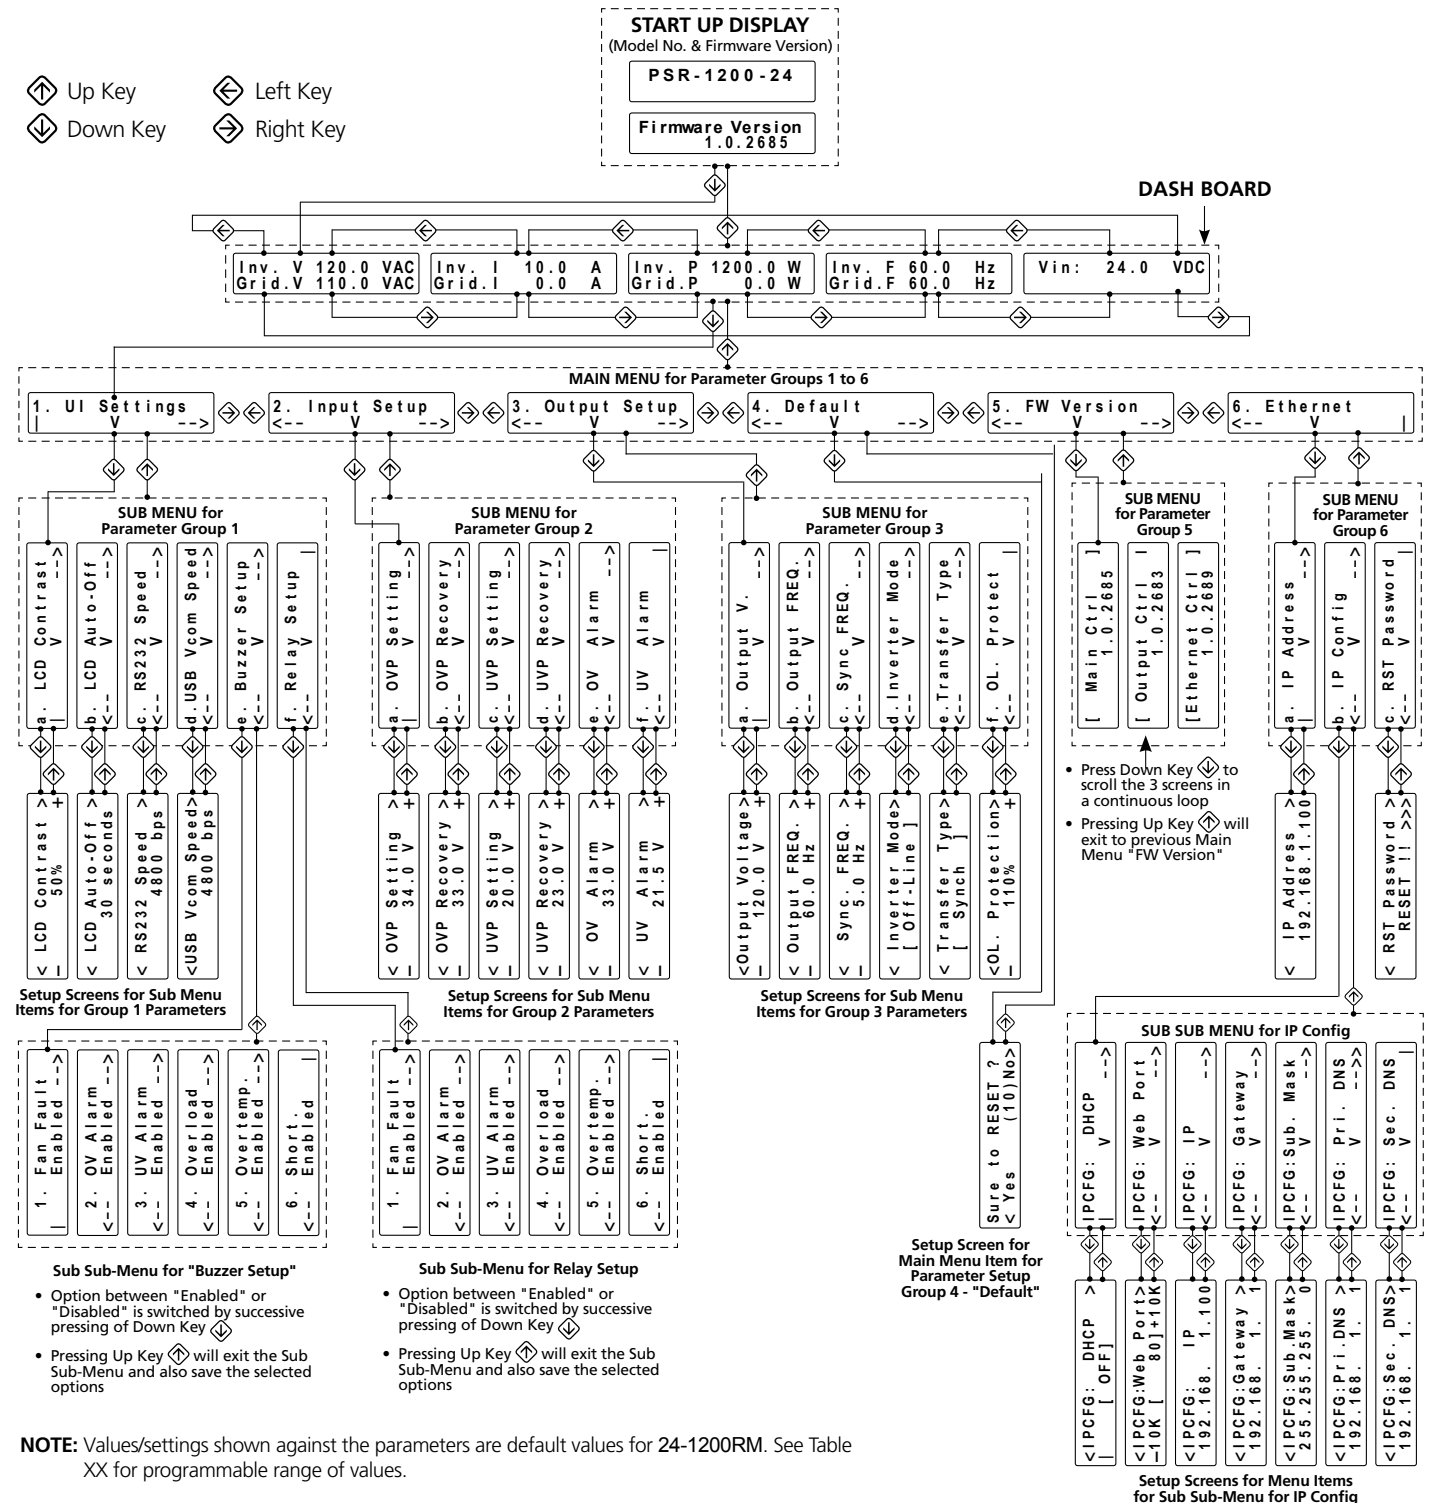

Fig 10.1 Menu Map for Programmable Operating Parameters
Refer to Startup Display and Dashboard portions of the Menu Map at Fig 10.1 (extract of these portions is given below at Fig 9.1 for ready reference. The "Startup Display" screens appear when the unit is switched ON (see Section 9.6 for details). The "Dashboard" shows the 5 scrollable screens that provide information on the operating parameters (see Sections 9.7 for details).
**9.5.1.1 LCD Auto-Off:** Programmable parameter “LCD Auto-Off” has been provided to either keep the LCD display on all the time or to switch off the display after expiry of programmable time period of 20 to 180 sec. For programming details, see Fig 10.1 / Table 10.1 under Main Menu for Parameter Group 1 – "UI Settings" / Sub Menu for Parameter Group 1, Parameter (a) – "LCD Contrast" (Section 10.2.1.1). In the default condition, the LCD Auto-Off function has been disabled and hence, the LCD screen will remain in on condition all the time.
**9.5.1.2 LCD Contrast:** This parameter can be programmed to control the LCD contrast. Programmable range is 0% to 100%. Default is 50%. For programming details, see Fig 10.1 / Table 10.1 under Main Menu for Parameter Group 1 – "UI Setting" / Sub Menu for Parameter Group 1, Parameter (b) – "Auto-off" (Section 10.2.1.2).
9.5.1.3 Various LCD Screens are available under Startup display and Dash Board for real time visual monitoring of important operating parameters. Refer to the Startup Display and Dash Board portions of the Menu Map at Fig 10.1. Details of LCD display of the operating parameters are explained in the succeeding Sections.
Refer to Startup Display portion of the screens at Fig 9.1 (extracted from Fig 10.1).
Refer to the Dash Board portion of the screens at Fig 9.1 (extracted from Fig 10.1).
The values / settings of various operating parameters can be programmed to suit specific application requirements. Refer to the Menu Map at Fig 10.1 to navigate to the setting screen of the desired parameter. Specifications of the parameters shown in the Menu Map are detailed in Table 10.1.
### 10.2 SPECIFICATIONS OF PROGRAMMABLE PARAMETERS IN THE MENU MAP AT FIG 10.1
Table 10.1 provides list of programmable parameters shown in the Menu Map at Fig 10.1 along with their specifications i.e. their programmable ranges, setup options and default values.
TABLE 10.1 PROGRAMMABLE PARAMETERS (REFER TO MENU MAP AT FIG 10.1)
**TABLE 10.1 PROGRAMMABLE PARAMETERS (REFER TO MENU MAP AT FIG 10.1) (Continued)**
### 10.2 DETAILS OF PROGRAMMABLE PARAMETERS LISTED IN TABLE 10.1 AND IN FIG 10.1
Table 10.1 provides list of programmable parameters, their programmable ranges, setup options and default values. Menu Map at Fig 10.1 shows the path to navigate to the setting screen of the desired parameter. Details of parameters are given in the succeeding Sub-Sections.